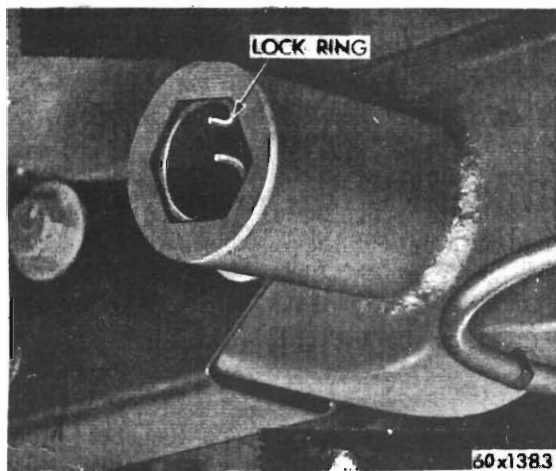

Fig. 6 - Torsion bar lock ring
(1) Remove the rebound bumper from its mounting bracket located under the upper control arm.
(2) If vehicle is to be raised on a hoist, make sure it is lifted on the body only, so that the front suspension is in full rebound (under no load). If vehicle is to be raised on jacks, placed under the centre of the "K" member, it will be necessary that a support first be placed under the "K" member. *In no circumstances should the front end of the vehicle be raised with a jack unless a support is first placed under the "K" member.*
(3) Release the load from the torsion bar by backing off the anchor adjusting bolt.
(4) Remove the lock ring from the rear of the torsion bar rear anchor (Fig. 6).